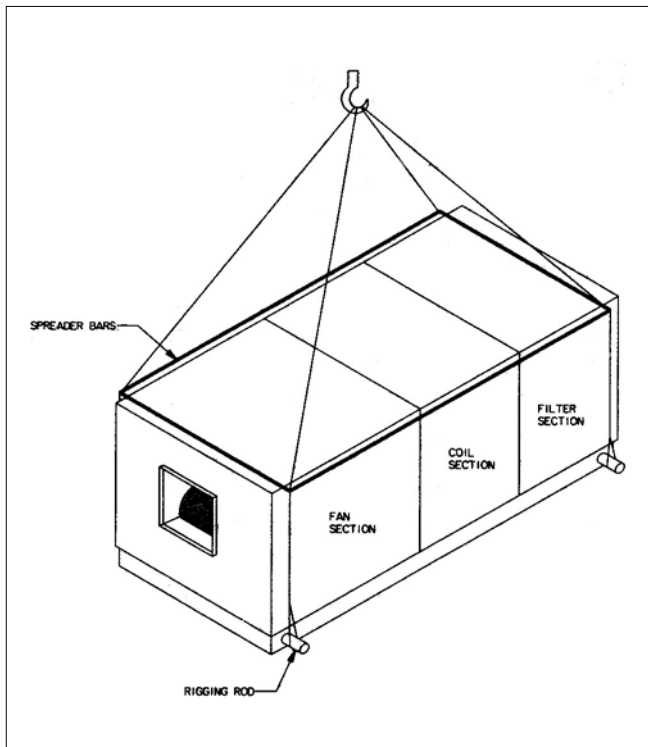

Fig. 1 Rigging Of Units
- 2.3 Refer to rigging details as shown in (Fig.1) to transfer unit from truck to storage site.
- Affix the gasket (that is supplied with the unit) along the edges of the aluminium frame that is required to be joined together. (refer figure 1)
- Locate the pre-drilled holes along the horizontal and vertical frame.(refer figure 1)